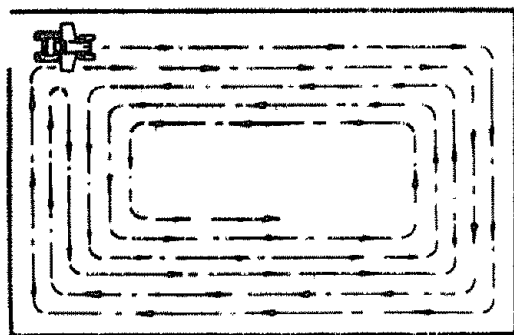

FIGURE 24
6. Drive so that clippings are discharged onto the area that has been cut. Have the cut area to the right of the machine. This will result in a more even distribution of clippings and more uniform cutting. When mowing large areas (Fig. 24), start by turning to the right so that the clippings will be discharged away from shrubs, fences, driveways, etc. After two or three rounds, mow in the opposite direction making left hand turns until finished. If grass is extremely tall, it should be mowed twice. The first time cut relatively high. The second time to the desired height. The left hand side of mower should be used for trimming.